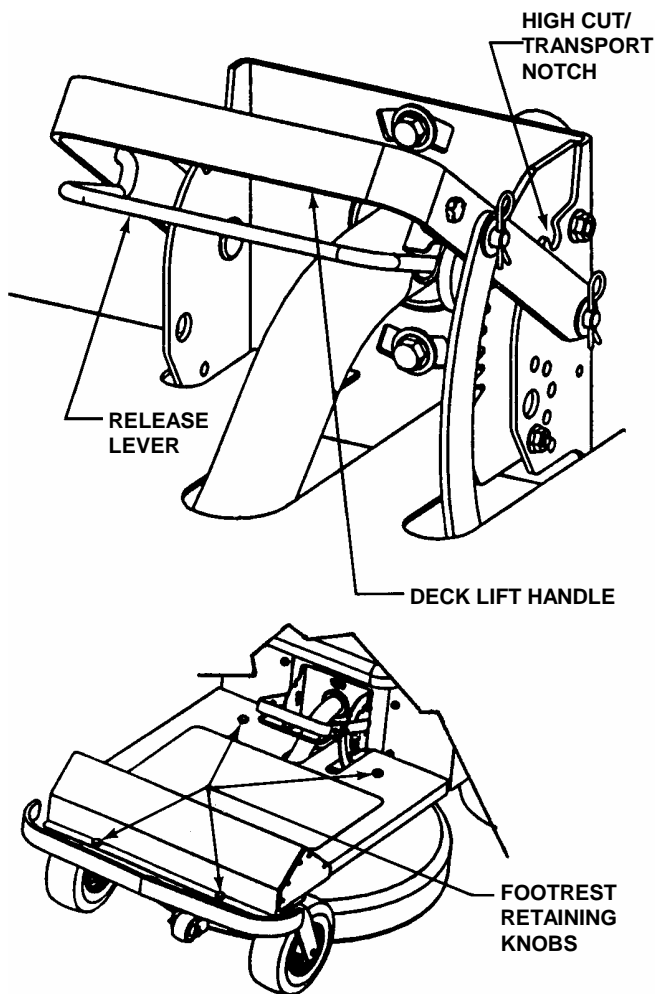

FIGURE 3.3
- b. Remove retaining knobs located at the corners of footrest. Remove footrest. See Figure 3.3.